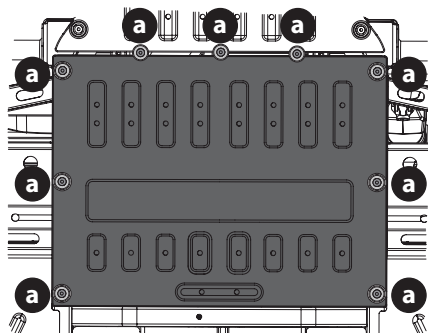

Figure 40
1. Remove the nine Allen-head bolts (a) and washers (a) securing the middle skid plate to the bottom of the utility vehicle (Figure 40).